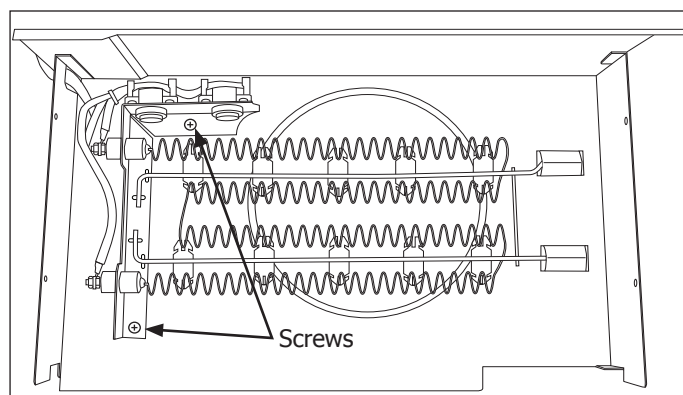

Figure 4-64.
8. Lay the heater and front scroll cover on a flat surface and extract the two screws securing the heater assembly to the front scroll cover. (See Figure 4-64)